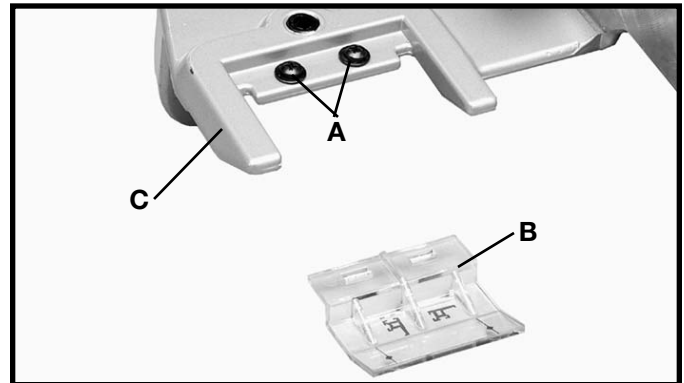

Fig. 64
1. Remove two screws and flat washers (A) Fig. 64, and assemble the cursor (B) to the Unifence body (C). Replace the two screws and flat washers (A).